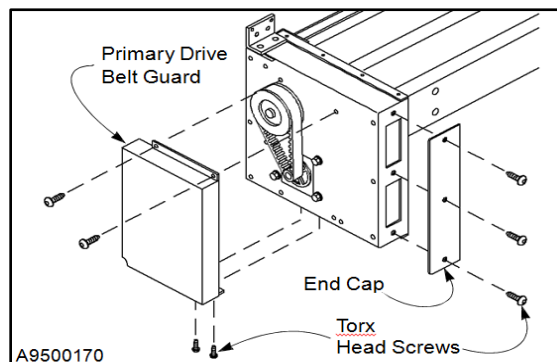

Figure 21
3. Remove the end caps from the left and right drive assemblies. Each end cap is held in place by three, 20-mm-long, Torx head screws. (See Figure 21.)
4. Remove the primary drive belt guard from the left drive assembly. The guard is held in place with four, 20-mm-long, TORX® head screws. (See Figure 21.)